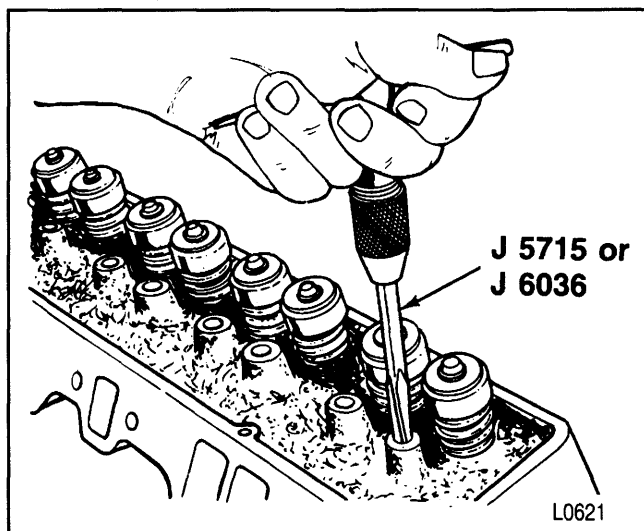

Figure 17—Reaming the Rocker Arm Stud Bore
↔ Install or Connect (Figures 17 and 18)
- Ream the hole to the proper size for the replacement oversize rocker arm stud. Use J 5715 for 0.003-inch oversize studs; J 6036 for 0.013-inch oversize studs (figure 17).